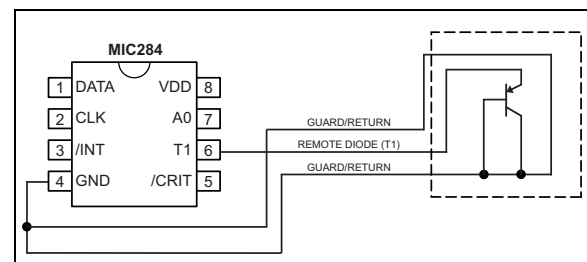

FIGURE 5-1: Guard Traces/Kelvin Ground Returns.
2. Because any conductance from the various voltages on the PC Board and the T1 line can induce serious errors, it is good practice to guard the remote diode's emitter trace with a pair of ground traces. These ground traces should be returned to the MIC284's own ground pin. They should not be grounded at any other part of their run. However, it is highly desirable to use these guard traces to carry the diode's own ground return back to the ground pin of the MIC284, thereby providing a Kelvin connection for the base of the diode. See Figure 5-1.
3. When using the MIC284 to sense the temperature of a processor or other device which has an integral thermal diode, e.g., Intel's Pentium III, connect the emitter and base of the remote sensor to the MIC284 using the guard traces and Kelvin return shown in Figure 5-1. The collector of the remote diode is typically inaccessible to the user on these devices. To allow for this, the MIC284 has superb rejection of noise appearing from collector to GND, as long as the base to